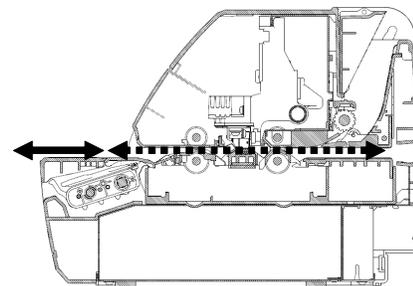

Figure 6-1. Horizontal Discharge Passage
- Thick media such as booklets use the horizontal passage shown in **Figure 6-1** and discharges at the front.